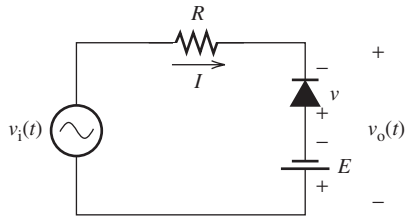

FIGURE P8.16 Circuit for Problem 8.16.
8.16 (B) For the circuit shown in Figure P8.16: